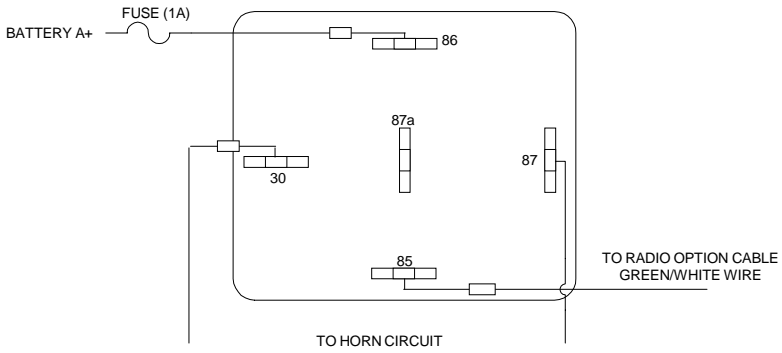

Figure 14 - External Alarm Relay
3. Connect the receptacle to relay lug #86. Cut the red lead so the fuse assembly is close to the voltage source. Install the fuse holder. Attach the other end of the fuse lead to the voltage source with appropriate hardware. See Figure 14.